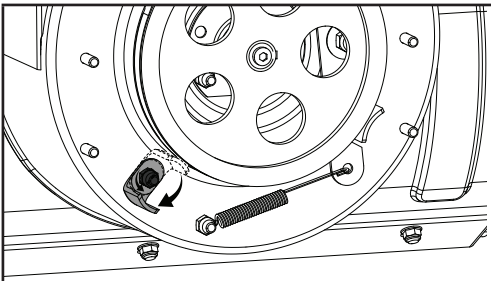

Figure 38
- Unscrew the bolt on the belt guard (Fig. 38).